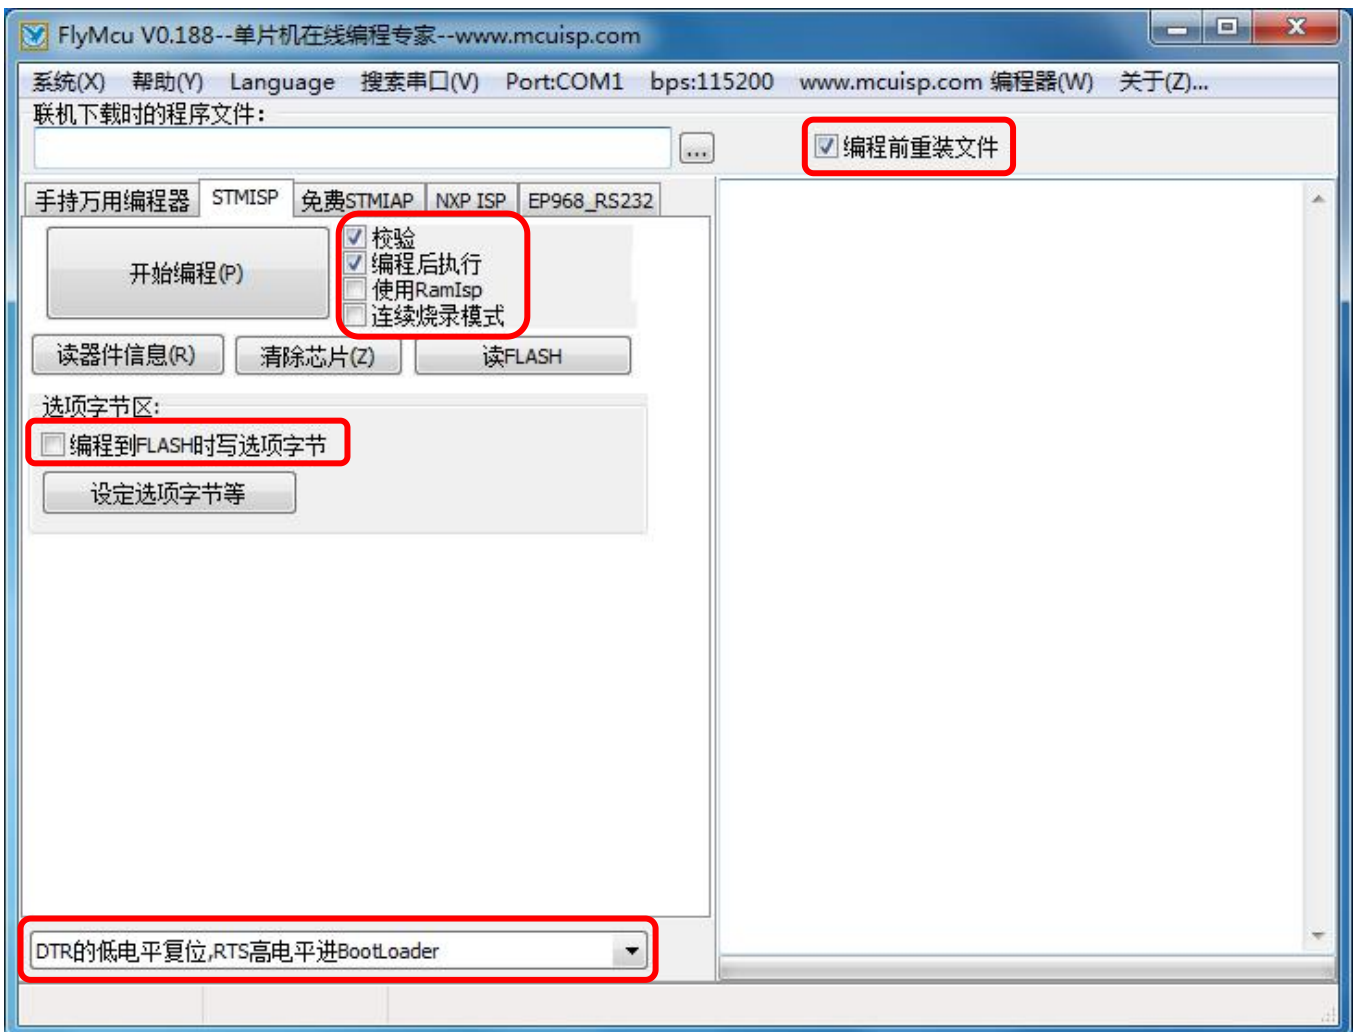

Figure 12 : Configuration of FlyMcu
4) Open the FlyMcu downloading tool and configure it as shown in Figure 12.